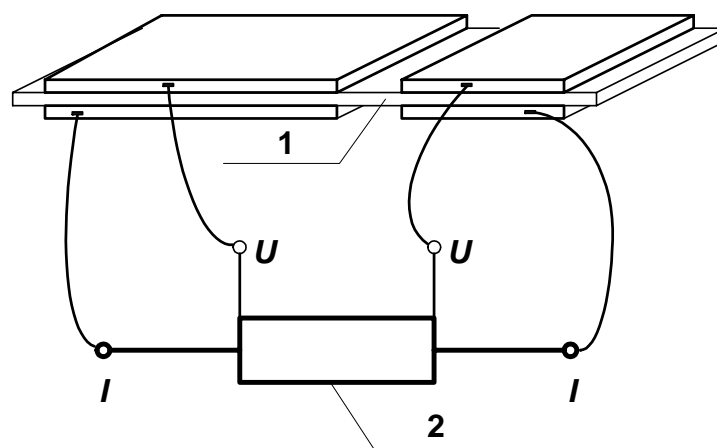

Fig. 4
Adjust the device before each calibration. Adjustment is done under normal conditions by an engineer-metrologist. The device IKS-5 is connected to the resistance standard for 0.01 Ohm through the contact device according to the schematic given in Fig. 4 using in-service short measuring cables with probes.
4.5.3.2. Connect sample coil or branch circuit through the contact device (Fig. 4) to input clamps (probes) of device feelers and make ten measurements of the coil or branch circuit.